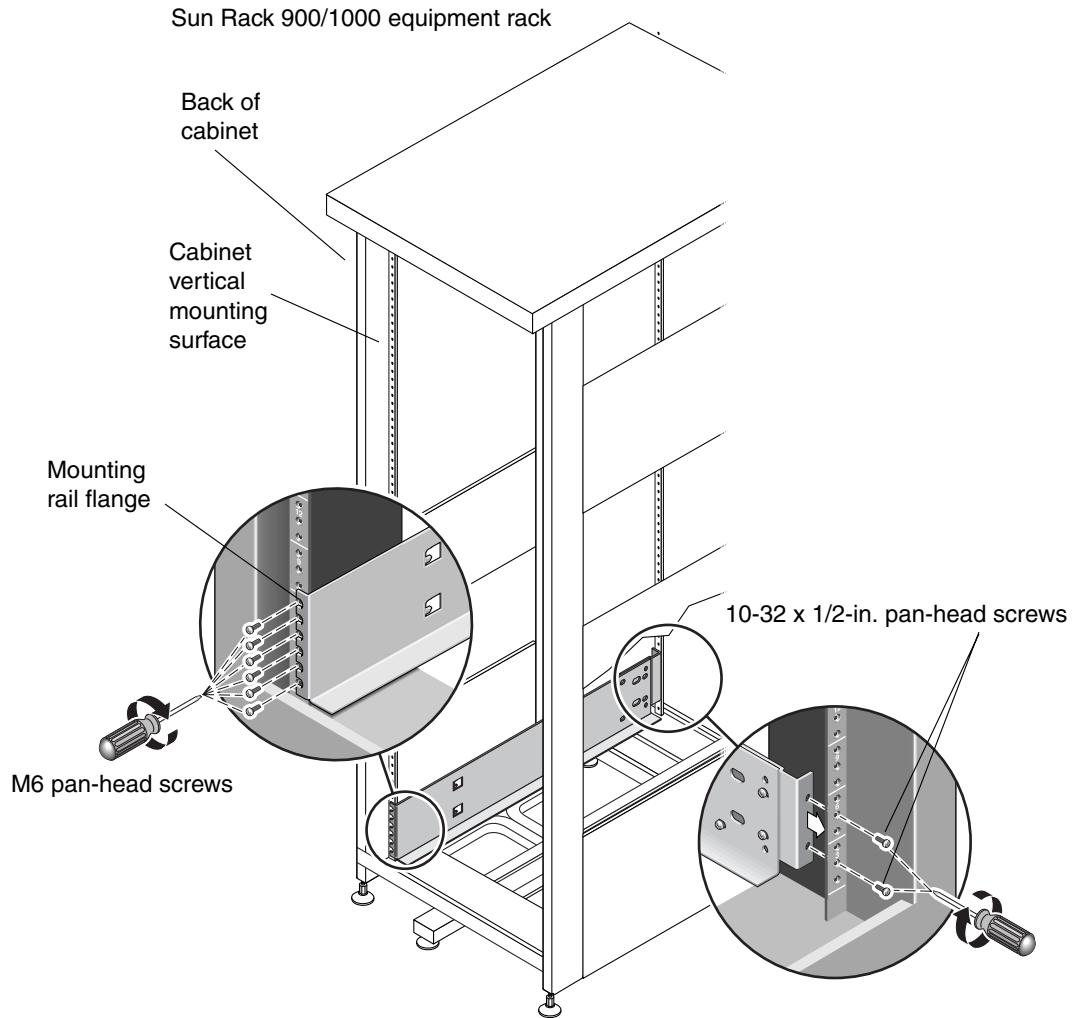

FIGURE 4-8 Positioning the Mounting Rail (One of Two) in the Cabinet
2. **Attach the mounting rail assemblies to the rack using the six M6 screws in the back of the cabinet and the two 10-32 x 1/2-in. screws in the front of the cabinet. See FIGURE 4-8.**